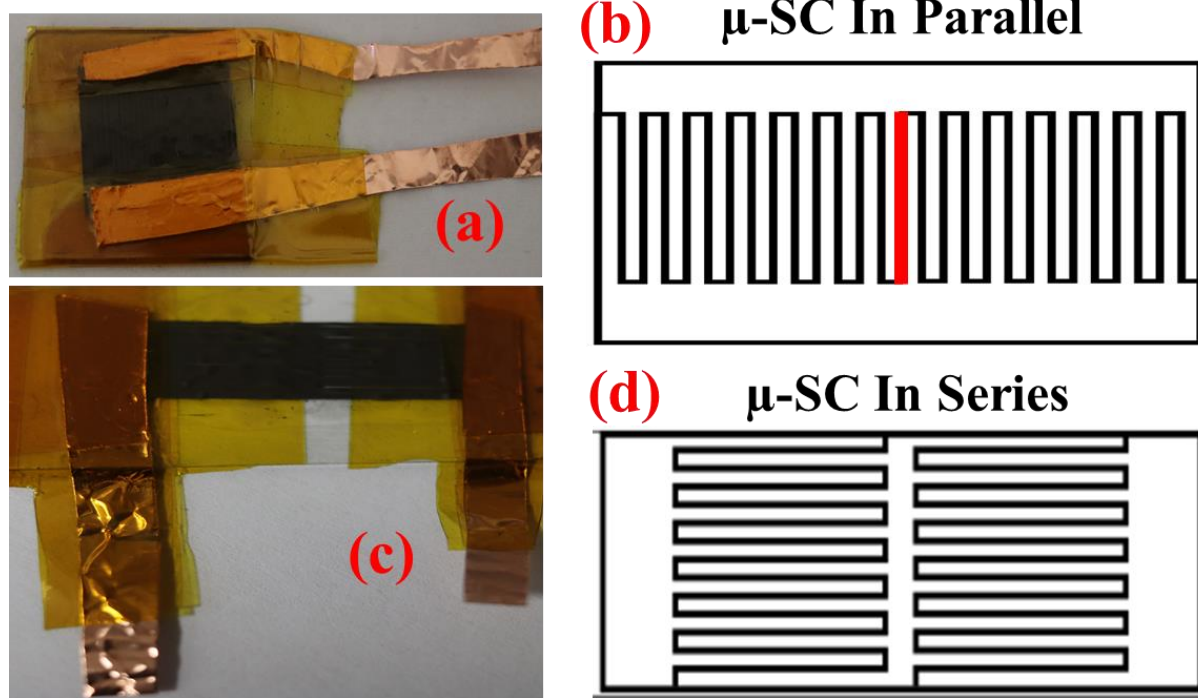

Figure S7. Digital photography of μ -SC in (a) parallel and (c) series. Inkscape blueprint of μ -SC in (b) parallel and (d) series.
*Total surface area and effective area doesn't include μ -SC edge area (see Fig. S7)